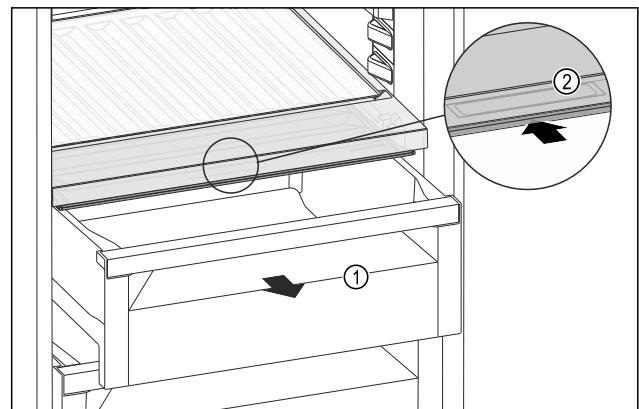

Fig. 89
- ▶ Pull out the drawer Fig. 89 (1).
- ▶ Grasp the recessed grip Fig. 89 (2) on the compartment lid and push the compartment lid backwards at the same time.